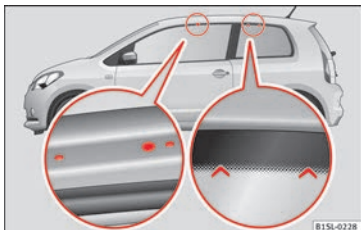

Fig. 141 Attachment points for the basic supports and the roof carrier system in two-door vehicles.
Two-door vehicles: the holes and marks indicating the fitting points for base front supports are in the lower half of the roof struts »» **Fig. 141** (enlarged left image). The holes and marks are only seen with the door open. The fitting marks for base rear supports are in the upper half of the windows »» **Fig. 141** (enlarged right image).
- The base support should only be fitted to the points indicated in the diagram »» **Fig. 141**.